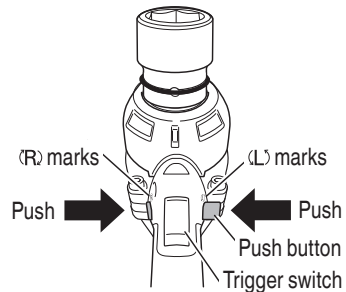

Fig. 10
The L-side of the push button is pushed to turn the bit counterclockwise. (See Fig. 10). (The (L) and (R) marks are engraved on the body.)